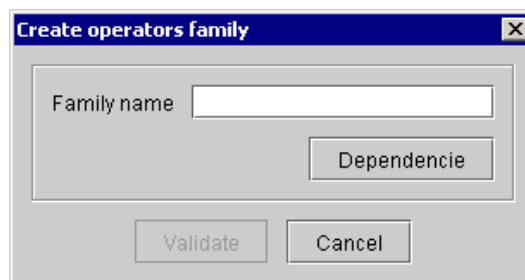

Figure 90 : Create operators family
- ♦ Select the **Create family** command; a *Create operators family* window (Figure 90) is displayed